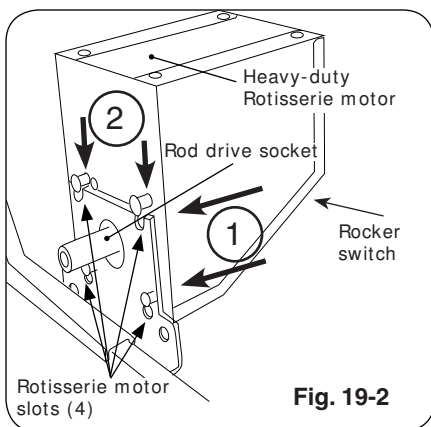

Fig. 19-2
12. Plug-in the rotisserie motor and press the rocker switch to start (Fig. 19-2).